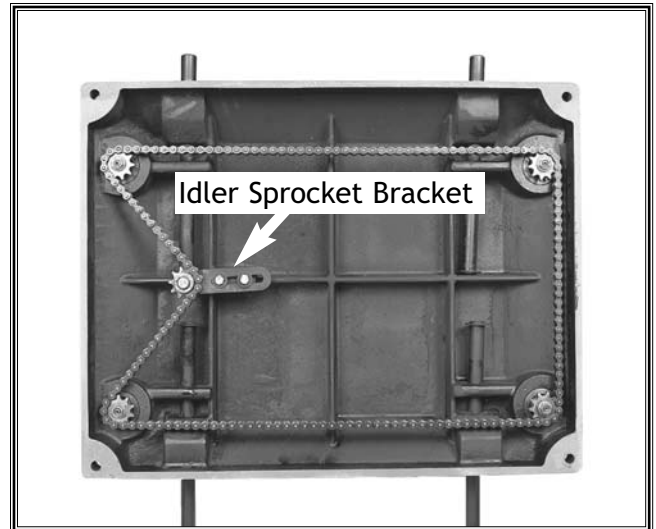

Figure 13. Underside of table.
2. On the underside of the table there is a chain drive and five sprockets as shown in **Figure 13**. The four sprockets in the corners control the movement of the table columns. The fifth sprocket is the idler sprocket that controls the chain tension. Loosen the two bolts on the idler sprocket bracket (as shown in **Figure 13**) to loosen the chain so that each sprocket can be rotated on its own. Make sure to hold the chain away from the sprocket while you adjust it.